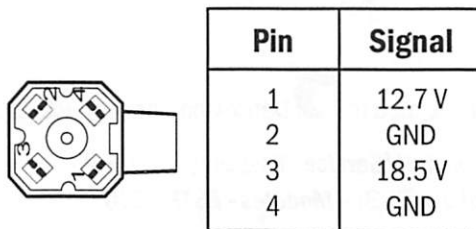
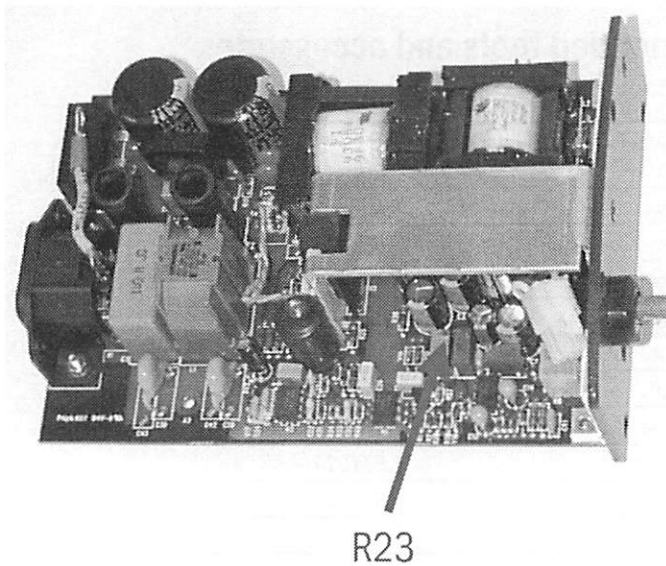

Figure 1 Power adapter's voltages
Figure 2 Adjustment trimmer R23 in N-LPOW
2. Connect the power cord to the power adapter and check the supply voltage from the power adapter's connector. PIN 1 voltage must be 12.7 V without load (Figure 1). If necessary adjust the 12.7 V with trimmer R23 (Figure 2).